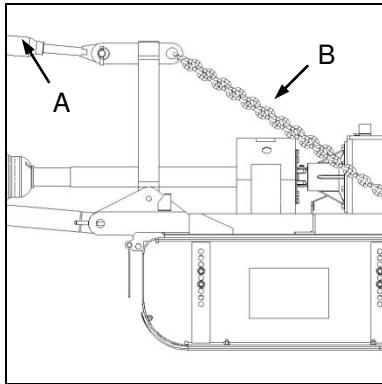

Fig. 1
- ✓ Adjust the tractor 3-point hitch top link (Fig. 1-A) to provide sufficient slack in the implement topmast chains (Fig. 1-B) to allow articulation of the implement over undulating terrain.
- ✓ Vervel die trekker se 3-punt-boskakel (Fig. 1-A) om genoeg speling in die implement se topmaskettings (Fig. 1-B) te bied om artikulasie van die implement oor ongelyke terrein toe te laat.